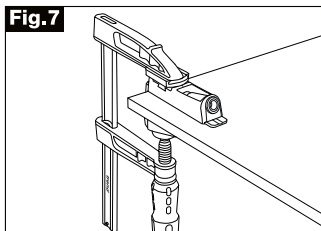

Fig.8
- Drilling the pocket hole (fig. 8)